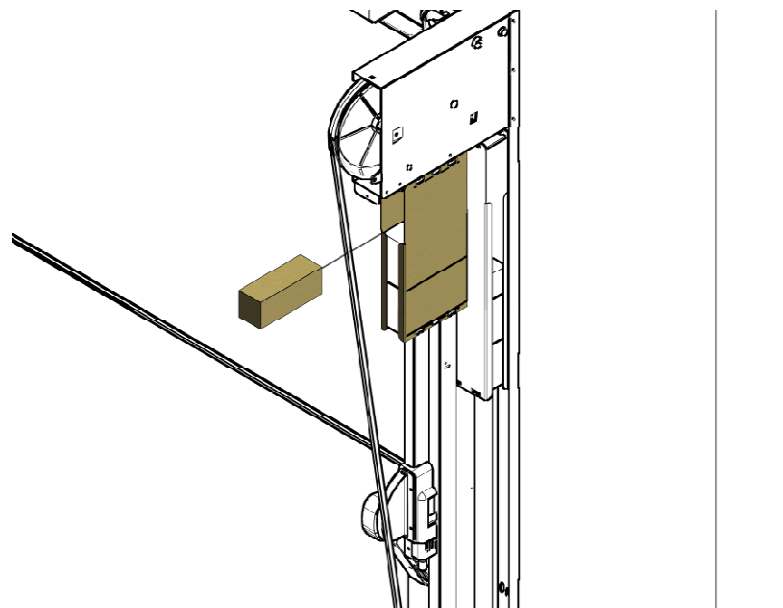

Figure 4-5 Right side only shown
3. If the lower section in open position tends to drop: with door closed, add weight units symmetrically to left and right large counterbalance boxes (Figure 4-5)
4. If the lower section opens too fast: with door closed, remove weight units symmetrically to left and right large counterbalance boxes (Figure 4-5)